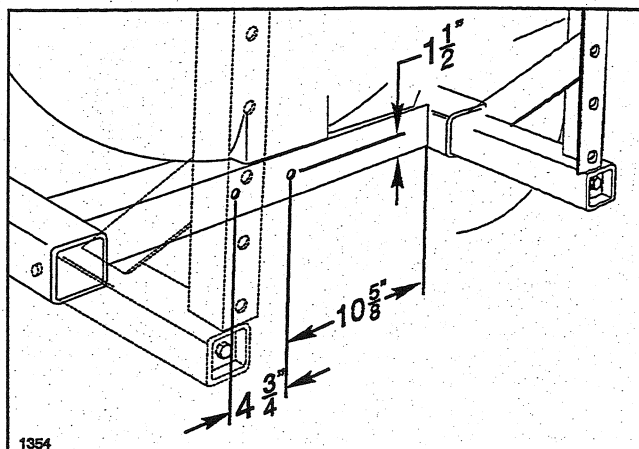

FIG. 2
1. Locate, mark and drill (2) 17/32" diameter holes in Frame Cross Angle. See FIG. 2.